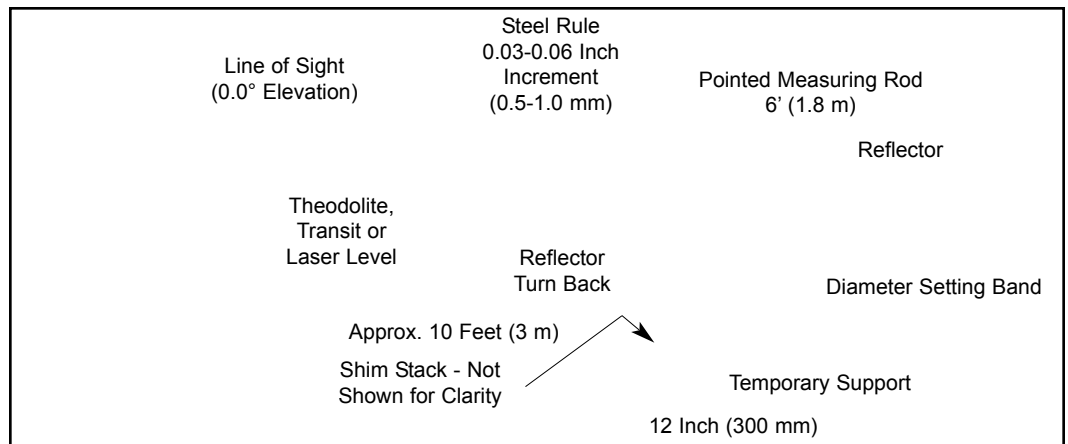

Figure 30
Position theodolite, transit or laser level about 10 feet [3m] from outside perimeter of reflector (see Figure 30).
Site through theodolite/transit/laser level to determine where on measuring rod to place steel rule onto rod to allow visibility of steel rule through theodolite/transit at all (6) six measurement locations around reflector. Securely fasten both ends of steel rule to measuring rod with adhesive tape (see Figure 30).
Position measuring rod point down over temporary supports and on the flat portion of the aperture face as shown in Figures 30 and 31, using theodolite/transit/laser level carefully measure and record relative height of each of the (6) temporary support locations. **Note:** Measuring rod must be held in a vertical position during all measurements.